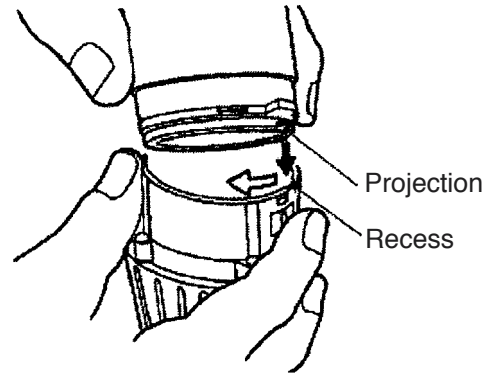

Fig. 12
(f) Install the assembly reassembled in step (1) and the assembly reassembled in step (e) together. (See Fig. 12.)